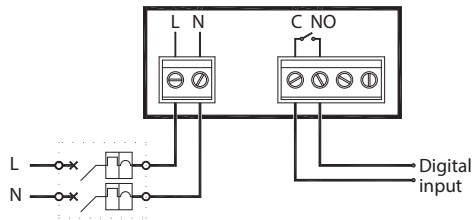

Fig. 1: connection to digital input of an electronic appliance with separate power source
3. Depending on the intended application, make the connections as shown in the diagrams (Figure 1 or 2) and as instructed by the manufacturer of the device to be controlled